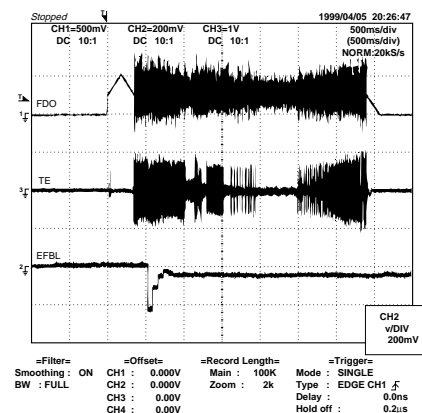

Figure 14-2
- Tracking balance adjustment (waveform drawing Fig.14-2 EFBL)